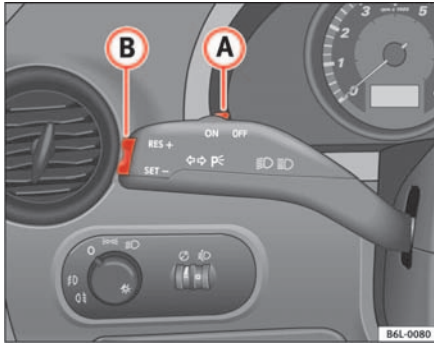

Fig. 100 Turn signal and main beam lever: switch and rocker switch for CCS
- Push the switch ⇒ fig. 100 **B** to the left to **ON**.